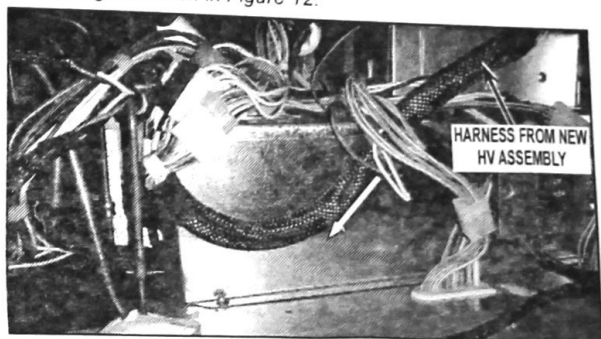

FIGURE 12
14. Route the harness from the new HV assembly behind the wiring as shown in Figure 12.